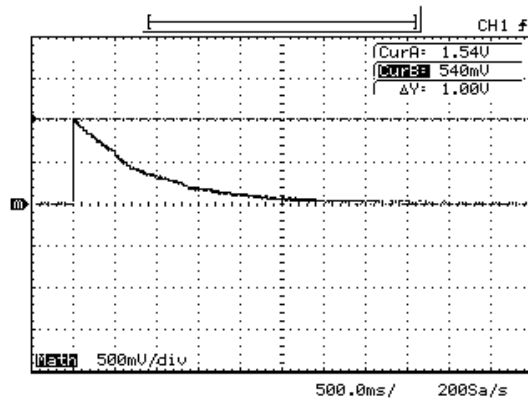

Figure 10. Y1-Y2 Waveform using a Defib-5P Pass/Fail Reference
10. The oscilloscope should display a waveform similar to Figure 10, with a peak value of approximately 1 volt.